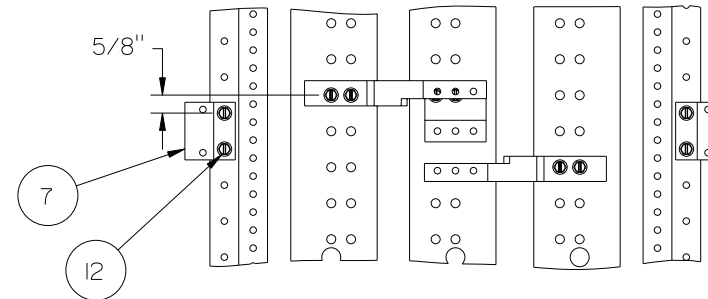

Figure 5
6. Reference fig. 5 - The QJ mounting brackets (item 7) are to be mounted. Locate a 0.228" diameter hole on the left Z-rail 5/8" below the mounting screws of the A ϕ strap. Insert one 1/4-20 X 3/8" screw (item 12) through the 0.312" diameter hole in the QJ mounting bracket and then into the hole in the Z-rail and tighten. Orient the QJ mounting bracket as shown, insert another 1/4-20 X 3/8" screw through the second 0.312" diameter hole in the QJ mounting bracket and then into a 0.228" diameter hole in the Z-rail and tighten. Repeat the same steps to install the second QJ mounting bracket onto the right hand Z-rail. Torque all screws as specified on the rear of the dead front.